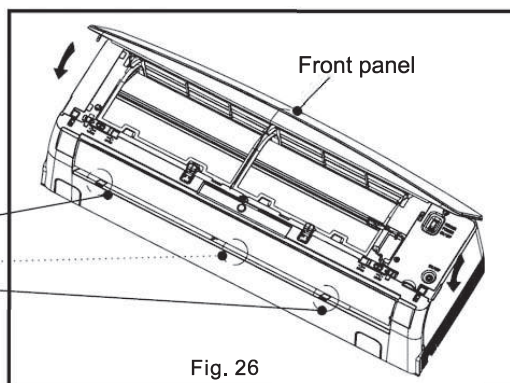

Fig. 26
- 12) Close the front panel as shown in Fig. 26.